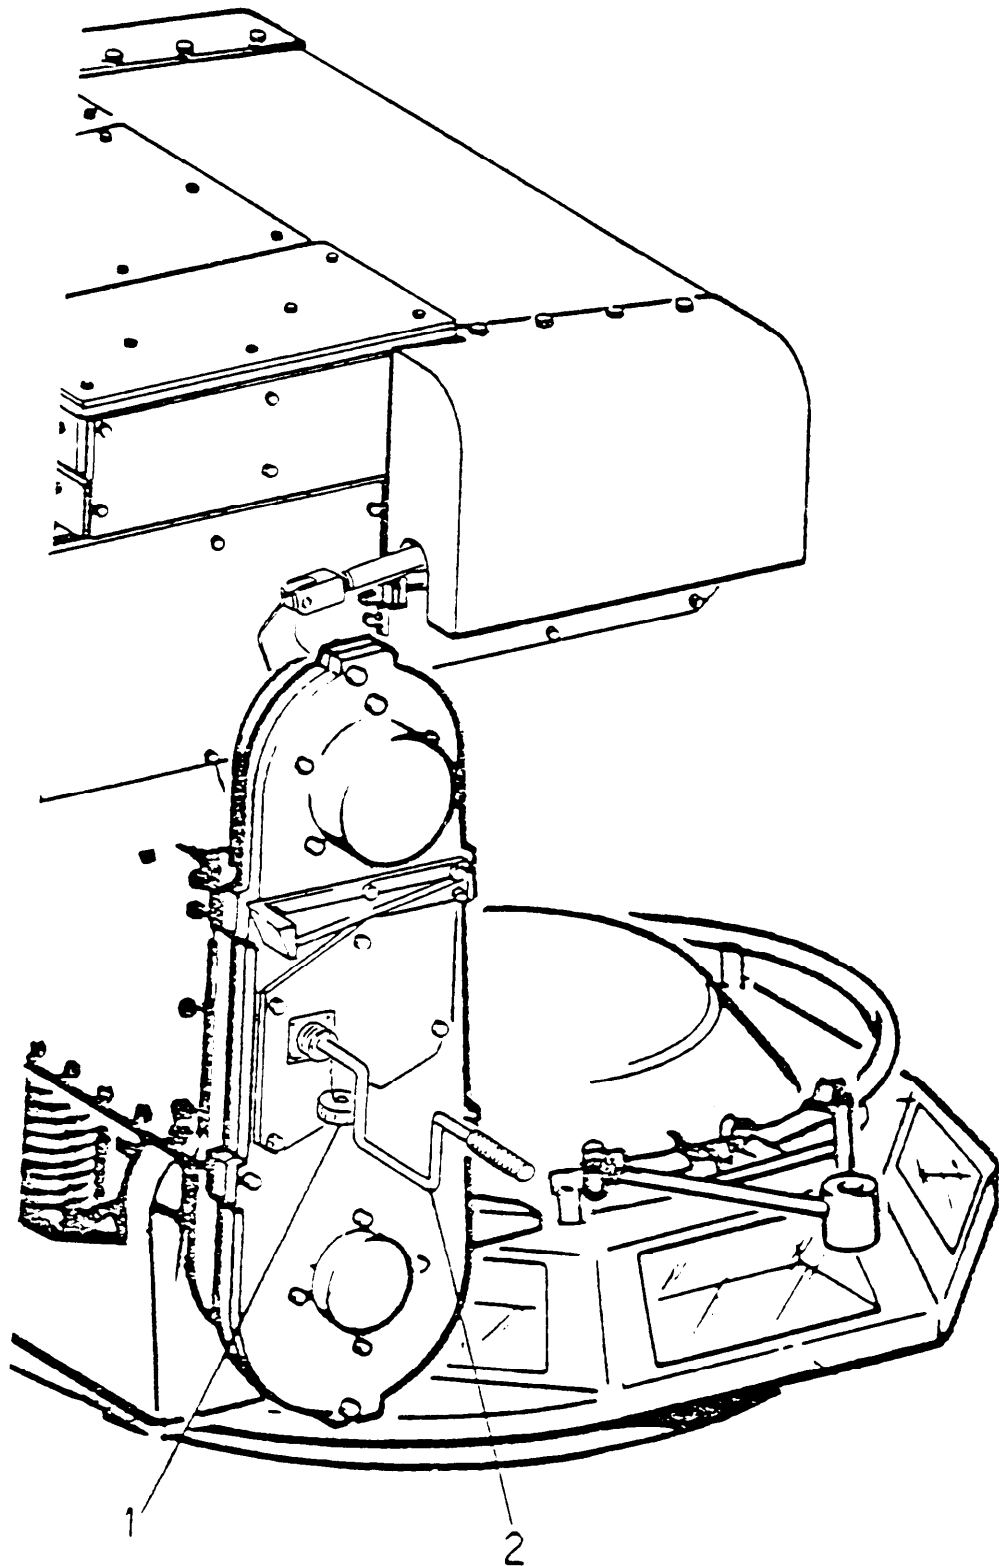

Figure D-3. Installation of Handcrank
- c. Remove cap (1) from erection arm. (See fig. D-3)
- d. Install handbrank (2) and turn handcrank clockwise to crank launcher down to deck.